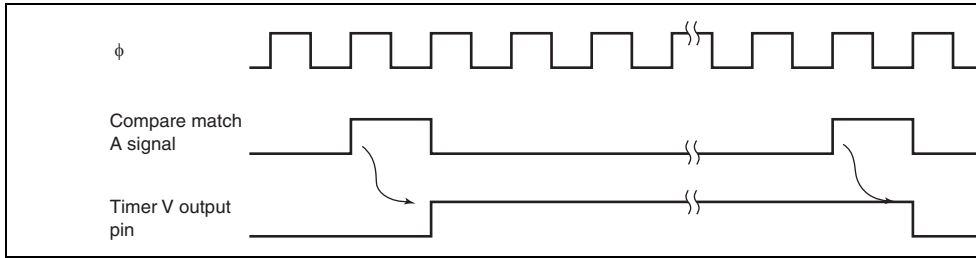

Figure 11.6 TMOV Output Timing
4. When a compare match A or B is generated, the TMOV responds with the output value selected by bits OS3 to OS0 in TCSR. Figure 11.6 shows the timing when the output is toggled by compare match A.